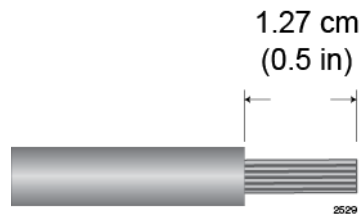

Figure 133. Stripping the Power Wires
1. Prepare adequate lengths of two stranded 8 AWG power wires by stripping them as shown in Figure 133.